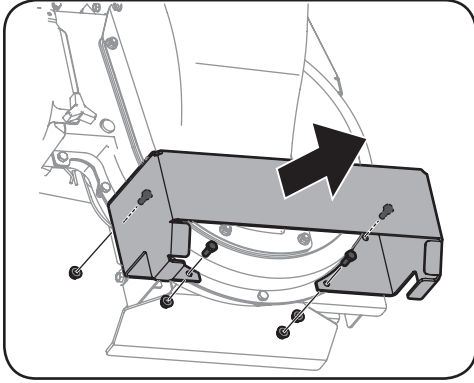

Figure 5-14
4. Remove the front wheel bracket by loosening the four flange nuts (and hex bolts). Retain hardware. See Figure 5-14.